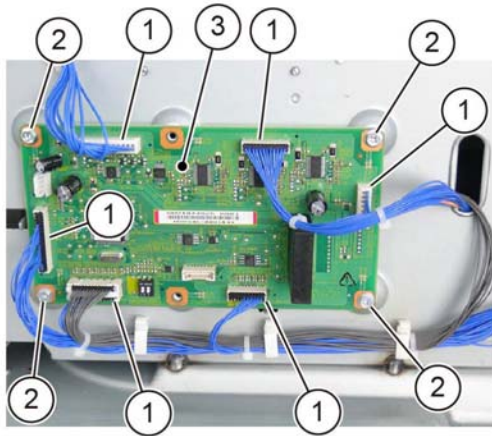

Figure 3 3TM PWB removal
2. Remove the 3TM PWB, Figure 3:
- a. Disconnect six connectors (1).
- b. Remove four screws (2).
- c. Remove the 3TM PWB (3).